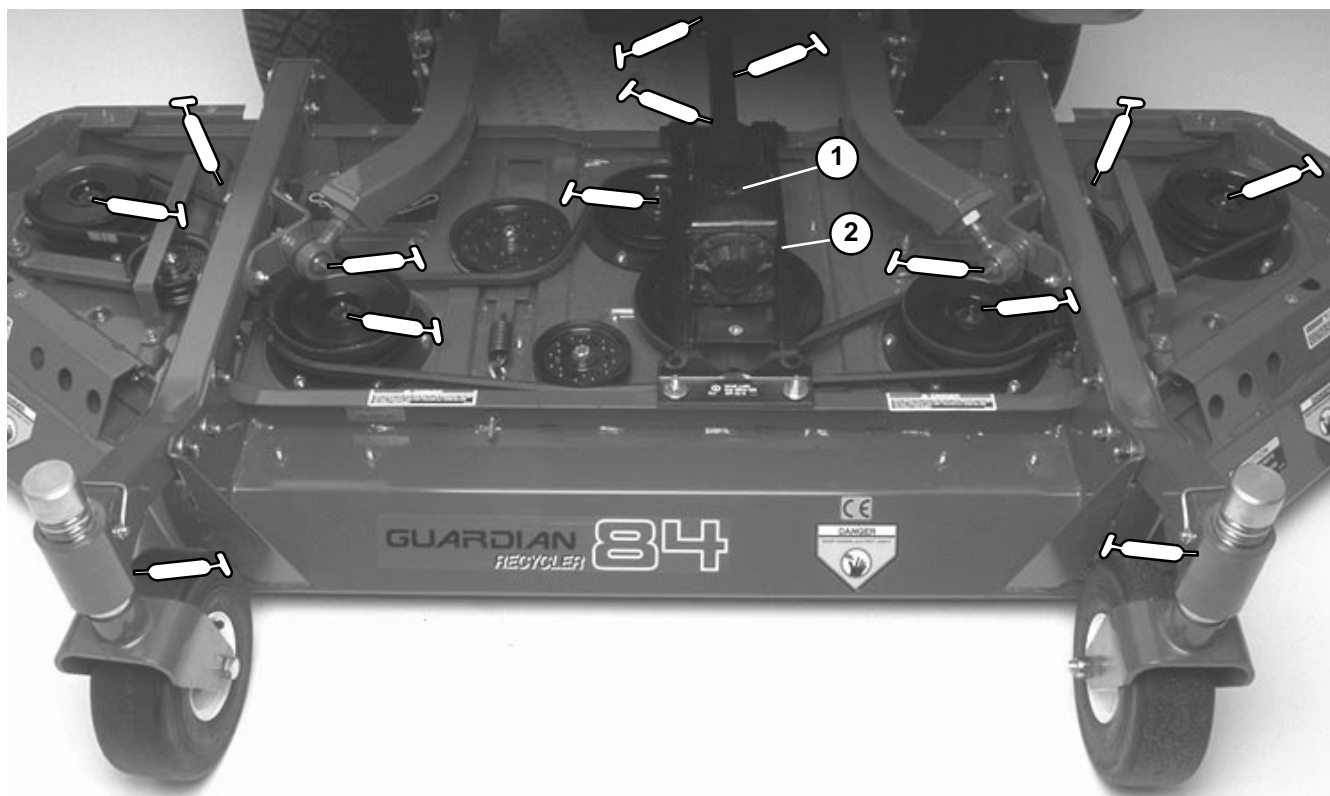

Figure 11
front castor shaft bushings (2), blade spindle bearings (5), idler arm pivots (2), drive shaft (3), Wing deck pivots (2) and right and left push arm ball joints (Fig. 11).